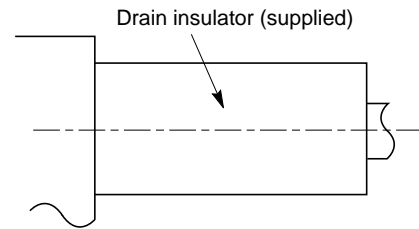

Fig. 2-7
- After checking the drainage, wrap the supplied packing and drain pipe insulator around the pipe. (Fig. 2-7)